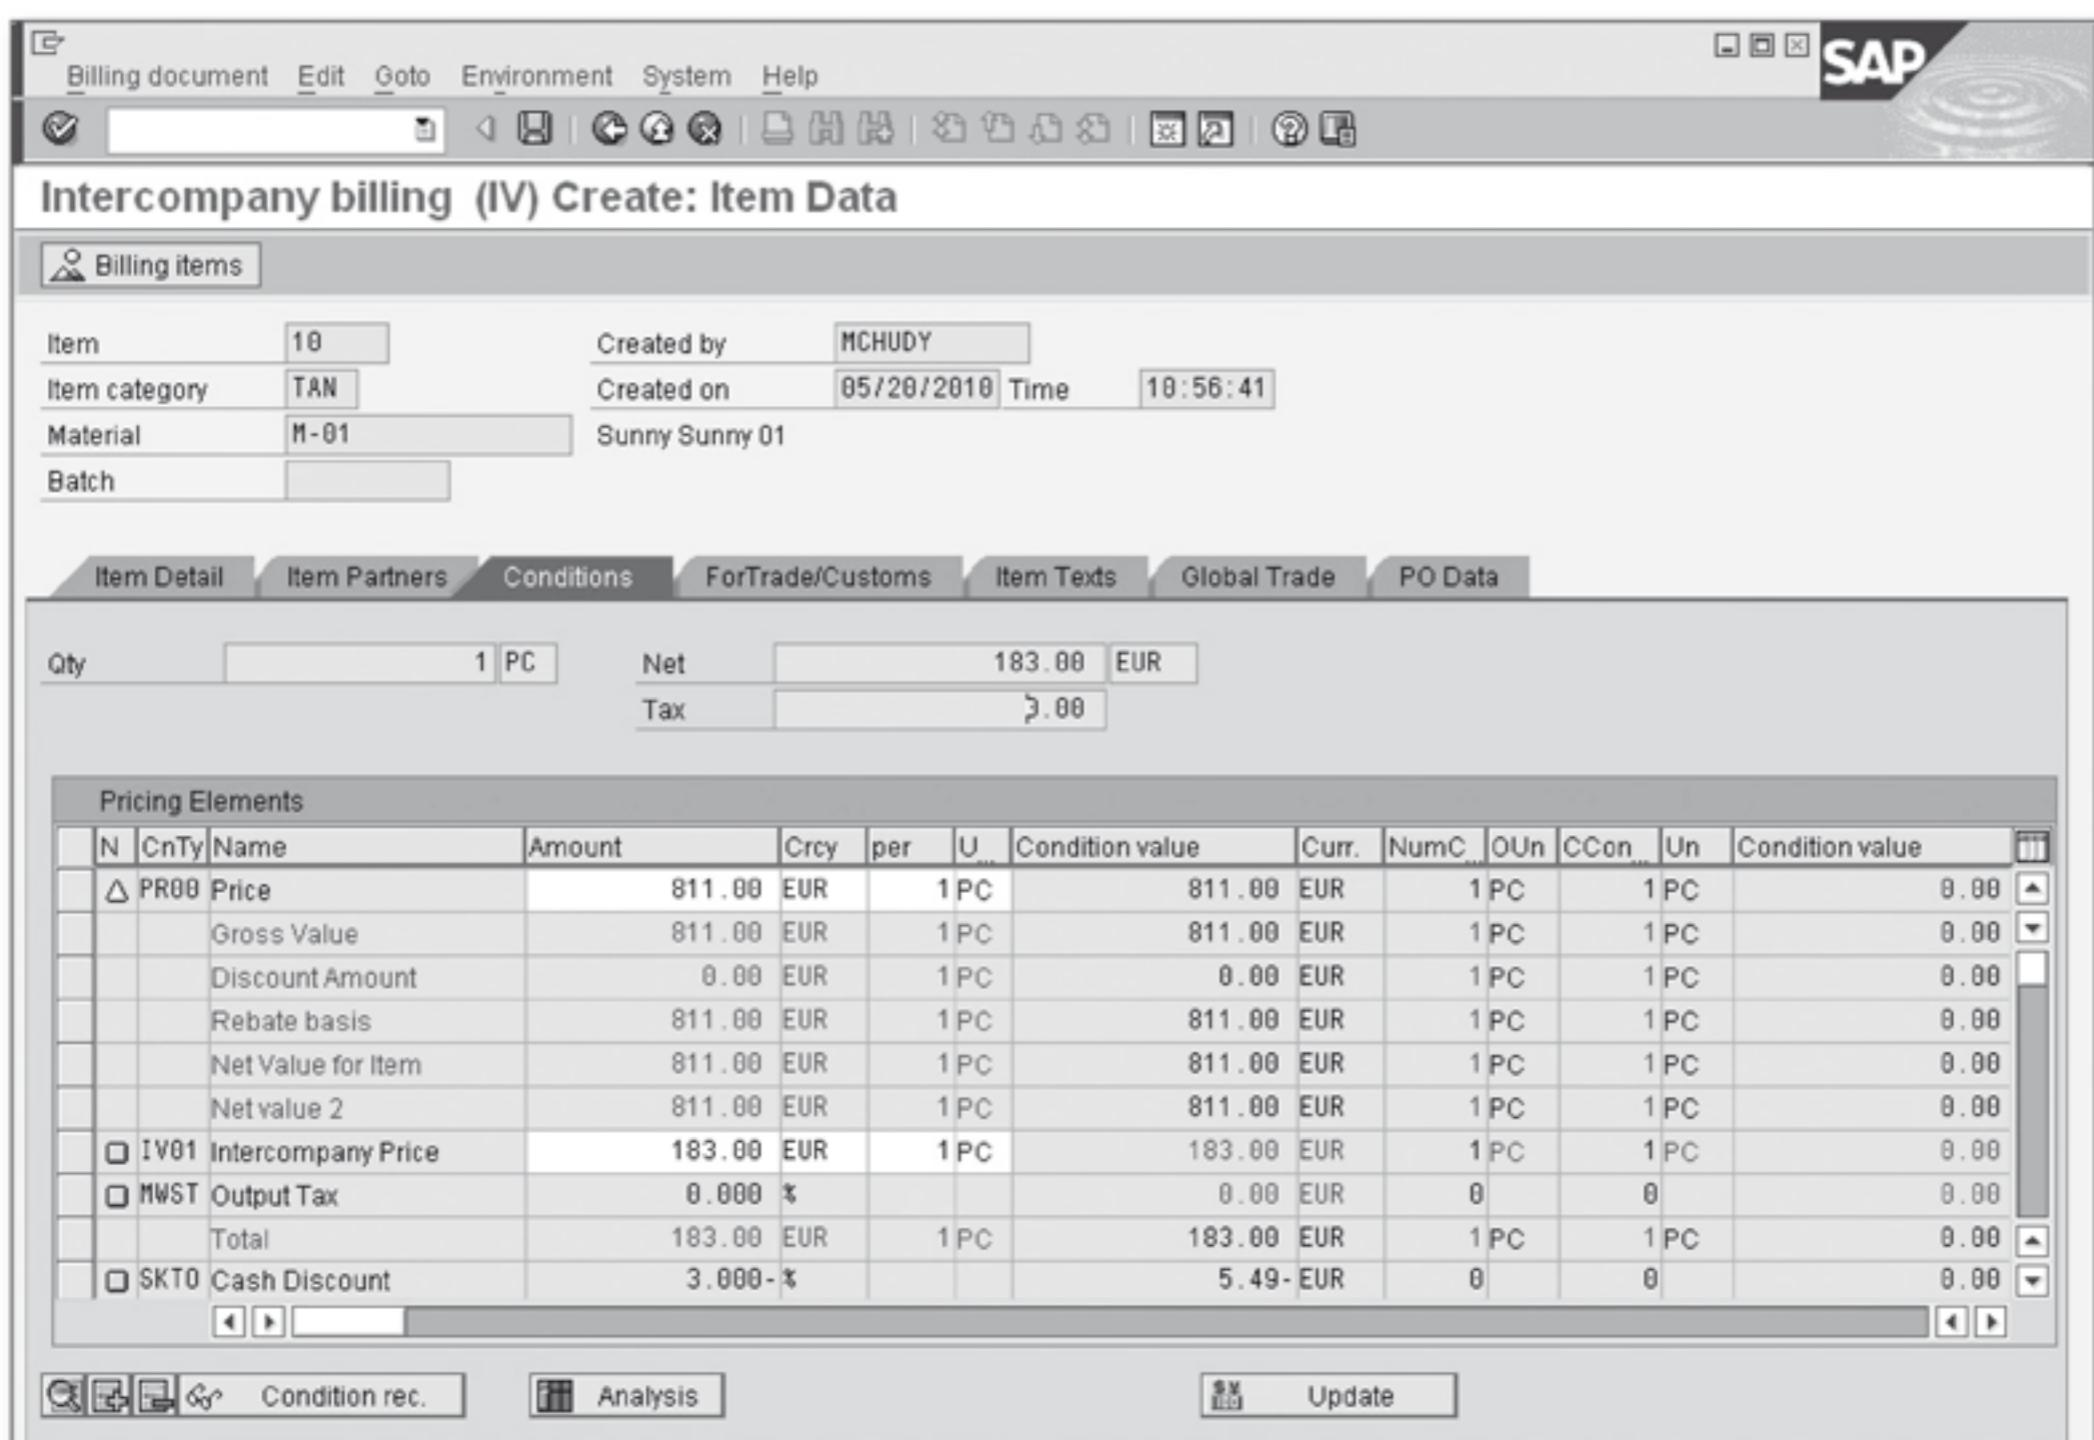

Figure 3.57 Intercompany Billing Document Create – Pricing Conditions
2. Use the Item Pricing Conditions button or the pull-down menu path **GoTo • ITEM • ITEM CONDITIONS**. You'll see that the price used for billing came from the sales order condition PI01 and the values are copied into IV01 – Intercompany Price pricing conditions (see Figure 3.57).